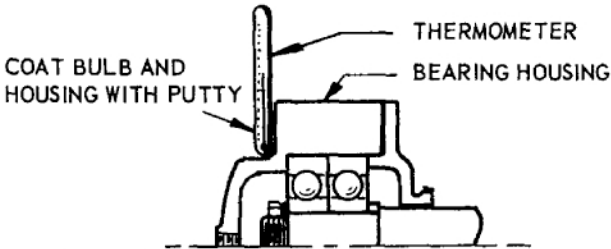

Figure 6 MEASURING BEARING TEMPERATURE
5. A high normal operating temperature is not a sign of bearing failure. Normal temperatures vary with the seasons and environment and may range from 0 to approximately 200° F. A continuous rise (determine as shown in Figure 6) from the **established, normal** operating temperature indicates trouble and probable failure of the bearing. Shut down the pump immediately. Disassemble, clean and inspect the bearing; replace it if required. Refer to Maintenance and Repair instructions.